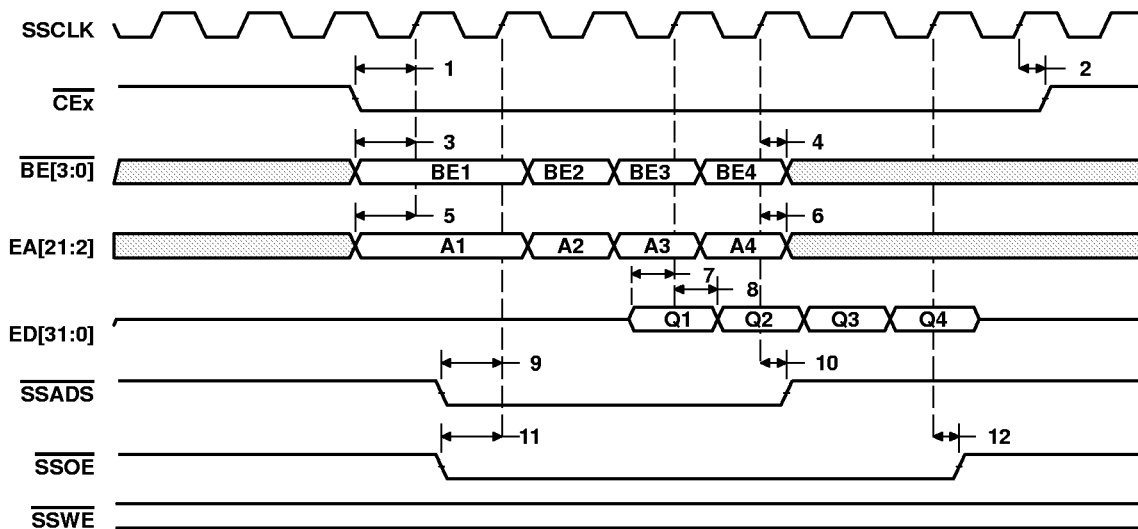
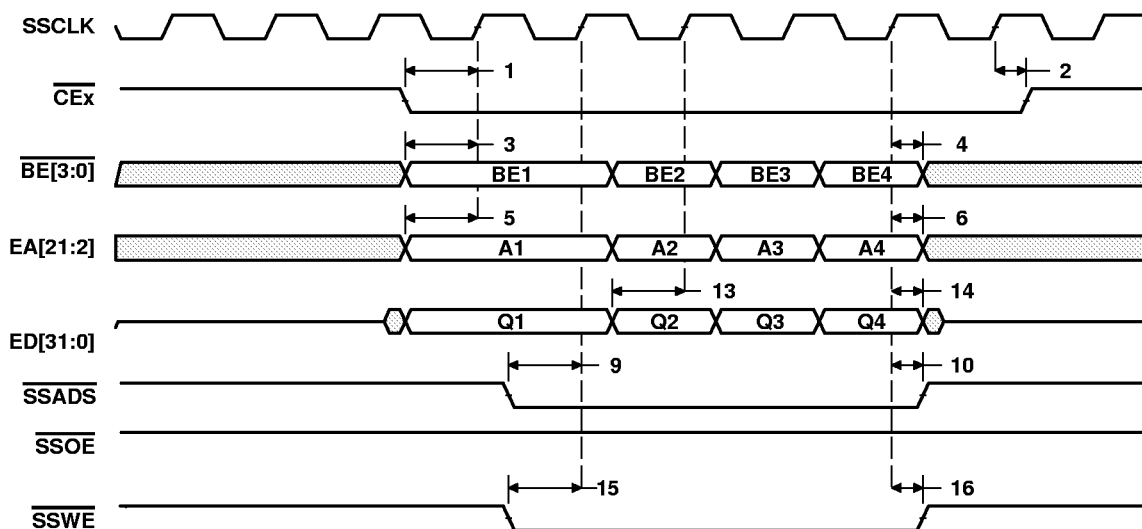

Figure 17. SBSRAM Read Timing (1/2 Rate SSCLK)
Figure 18. SBSRAM Write Timing (1/2 Rate SSCLK)
**(see Figure 17) ('C6201)**
**(see Figure 17 and Figure 18) ('C6201)**
(see Figure 17) ('C6201B)
(see Figure 17 and Figure 18) ('C6201B)